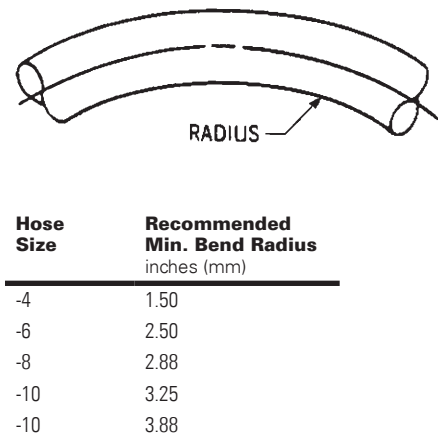

Figure 23. Minimum Bend Radius.
- C. Installation with Bending — When bends are required, the radii shown in Figure 23 should be maintained for normal installation with no flexing. A larger radius than the minimum allowed is preferred.